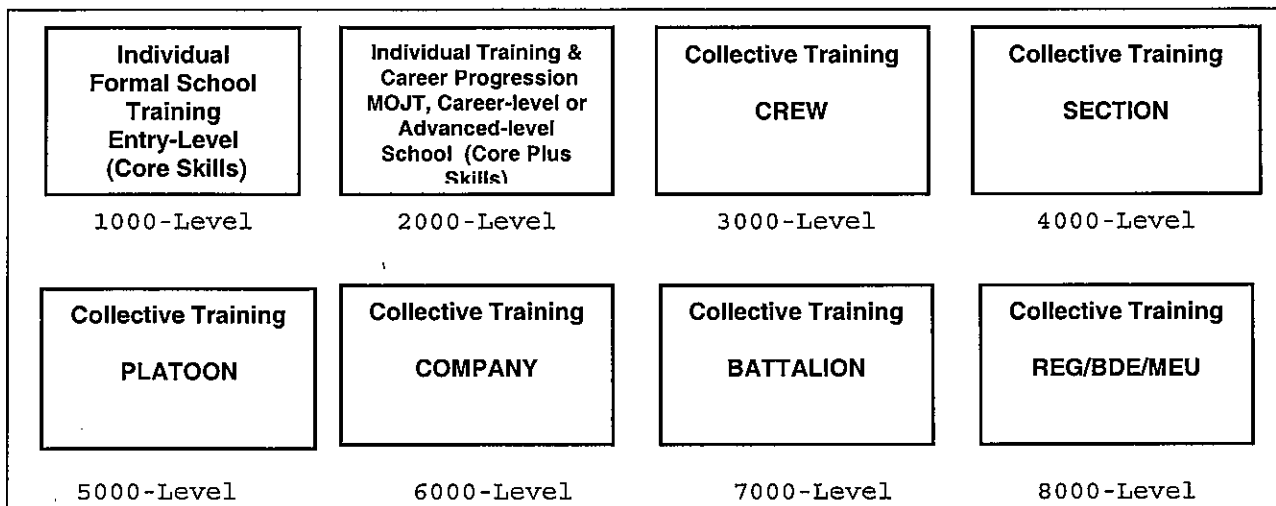
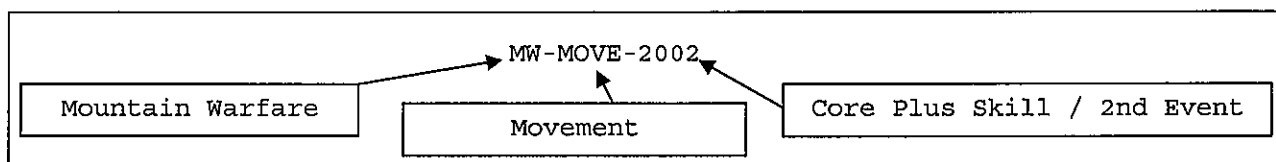

Figure 1: T&R Event Levels
Figure 2: T&R Event Coding
2. The T&R levels are illustrated in Figure 1. An example of the T&R coding used in this Manual is shown in Figure 2.